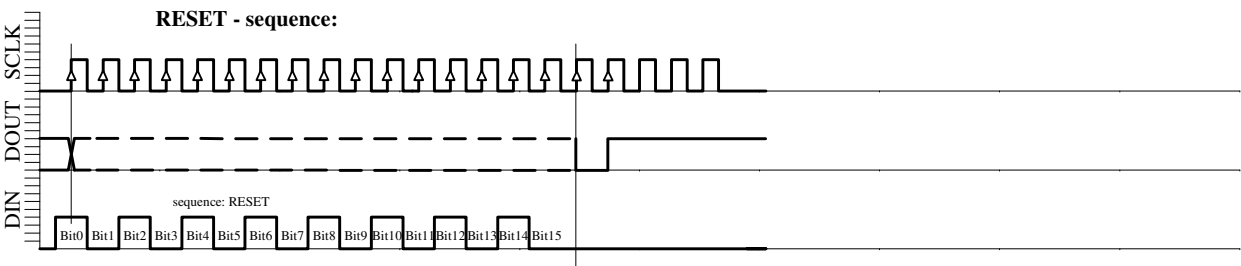

Fig. 6e: Reset sequence (21-Bit)
- RESET sequence (Figure 6e)
The RESET-sequence is special as its unique pattern is recognized by the module in any state. By consequence it can be used to restart if synchronization between the microcontroller and the MS5541C has been lost. This sequence is 21-Bit long. The DOUT signal might change during that sequence (see Fig. 6e). It is recommended to send the RESET sequence before first CONVERSION sequence to avoid hanging up the protocol permanently in case of electrical interference.